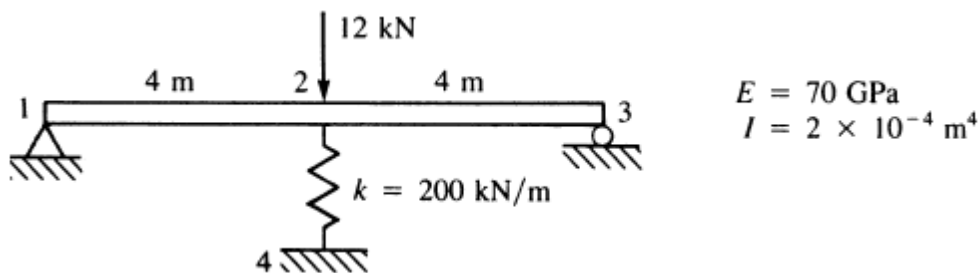

Figure P3.10
10. For the beam shown in **Figure P3.10**, determine the displacements and the slopes at the nodes, the forces in each element, and the reactions. Also, draw the shear force and bending moment diagrams.